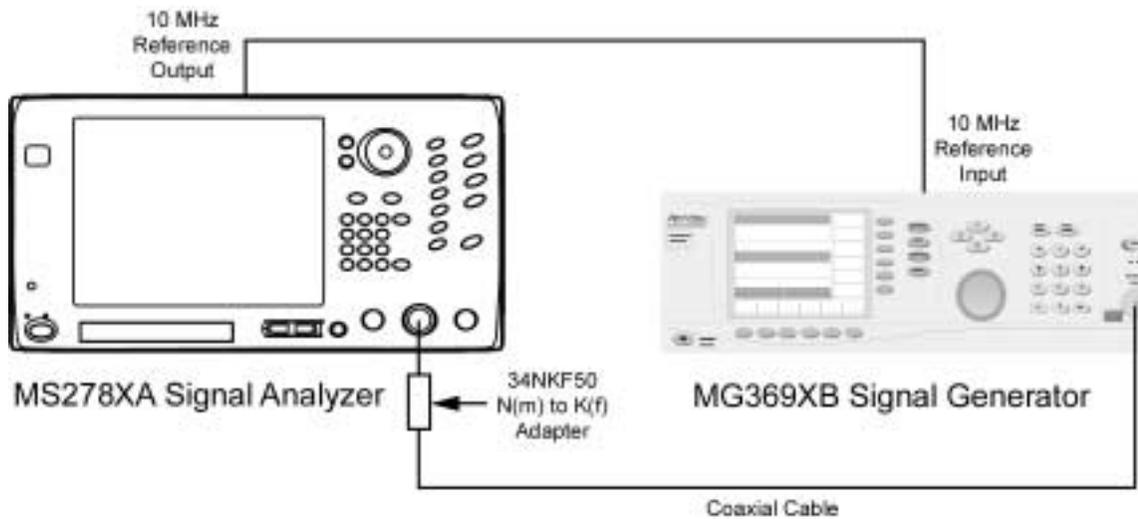

Figure 3-9. Equipment Setup for Reference Level Switching Uncertainty Test
- Step 1.** Set up instruments as shown in Figure 3-9.